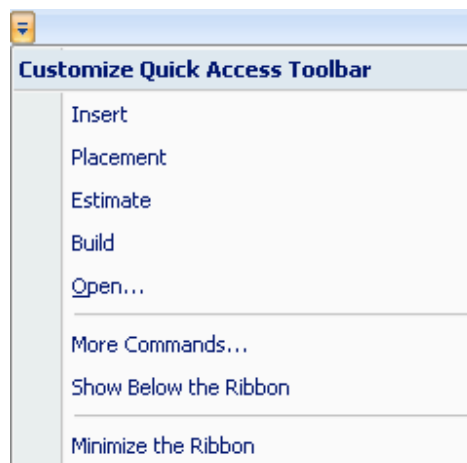

Figure 5-80 *Customize Quick Access Toolbar menu*
- From the *Customize Quick Access Toolbar* menu (see Figure 5-80 on the previous page), select **More Commands**.